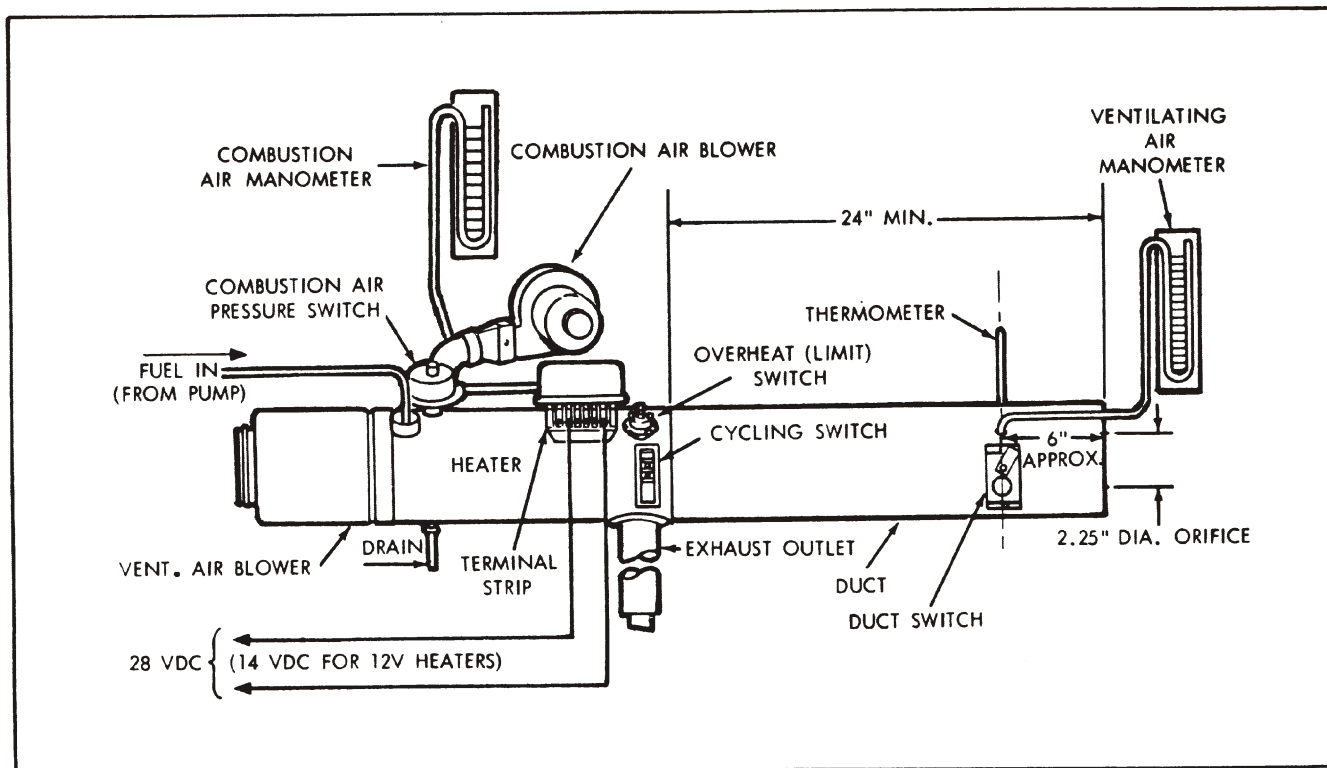

FIGURE 5-1 Suggested Set-Up for Heater Operation Test
5.3 Equipment Required (See Figure 5-1)
- f. A piece of duct to be attached to the downstream end of the heater. It should have a minimum length of 24-inches and the same diameter as the heater being tested. A 2.5" diameter orifice should be centrally located at the outlet end. An aperture should be provided for the thermometer and duct switch and a static tap should be attached as shown in Figure 5-1.
5.4 Operational Test (See Figures 5-1 and 5-2)
- a. Connect the heater to the test setup as shown in Figure 5-1. Make sure the combustion air blower is mounted securely and that the heater is clamped to its supporting stand.
- b. Insert the duct switch in the sheet-metal extension tube at the location shown in Figure 5-1.